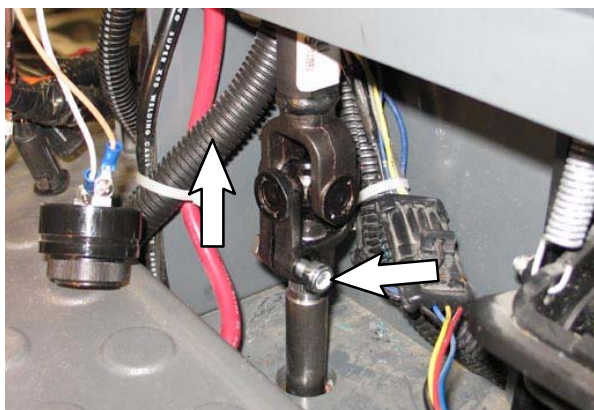

FIG. 15
31. Loosen the hardware to securing the steering shaft to the lower steering shaft and remove the steering shaft from the lower steering shaft. (Fig. 15)